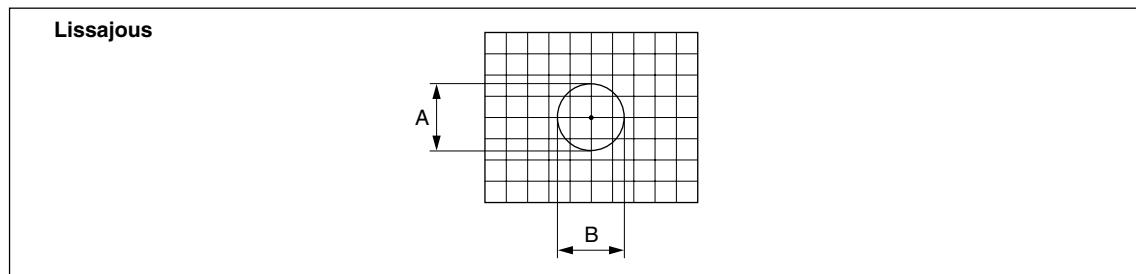

Fig. 3-15
- 5** Move the scale, and make sure that the amplitudes A and B (see Fig. 3-15) of the Lissajous' figure are within the range of the specified values over the entire length.